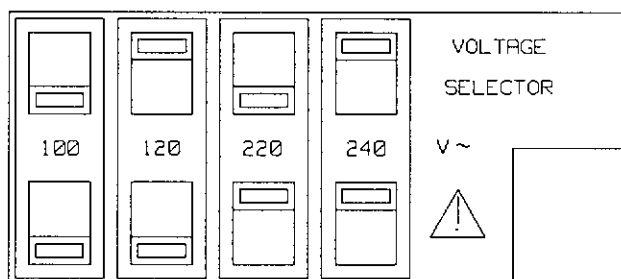

Figure 2-1. Voltage Selection Possibilities
5. Then using a screwdriver, move the switches into the position required for the voltage to be used, as shown in Figure 2-1.